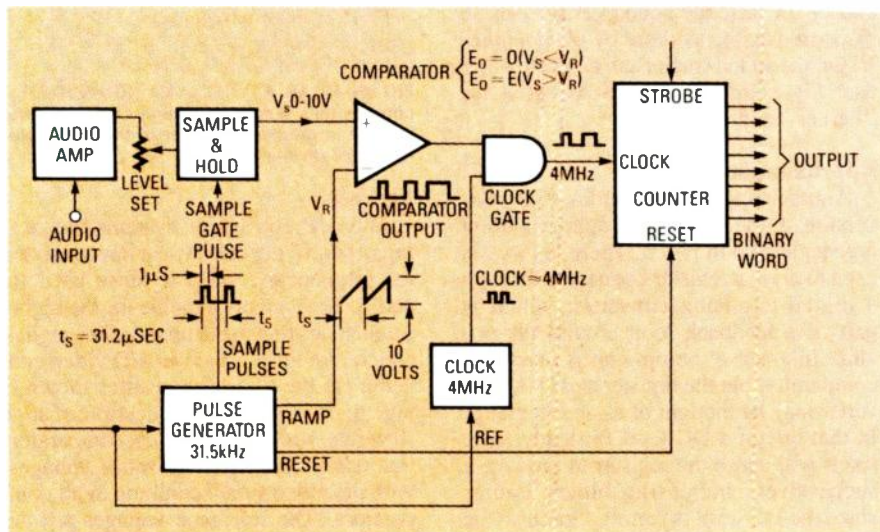

FIG. 3—A COMPARATOR can be used to digitize an analog signal at TTL levels.
Figure 3 shows how an audio signal can be digitized. The output from the audio amplifier is level-set for proper dynamic range, and then sampled every 31.2 microseconds (31.5 kHz rate). The analog value is stored in a sample-and-hold circuit until the next sample is taken; let us assume it may be any value between zero and ten volts. That analog level is then fed to one input of a comparator. The other comparator input is fed with a linear ramp (sawtooth) whose amplitude rises from 0 to 10 volts. (The ramp starts slightly before the sampling interval and ends just before the next audio sample is taken, because some time must be reserved for sampling and resetting the ramp to zero.) If the audio sample is relatively large (say 7 to 10 volts) in amplitude, the ramp will have to rise to that value before the comparator's output voltage will drop to zero. If the analog sample is small (say 1 volt), the comparator will drop to zero when the ramp exceeds one volt. (The comparator's output is a logic high (1) when $V_S > V_R$; it is a logic low (0) when $V_S < V_R$. Therefore, the comparator output is a train of pulses having a frequency of 31.5 kHz and a pulse width ranging from nearly zero to 30 microseconds (depending on the sample amplitude.)